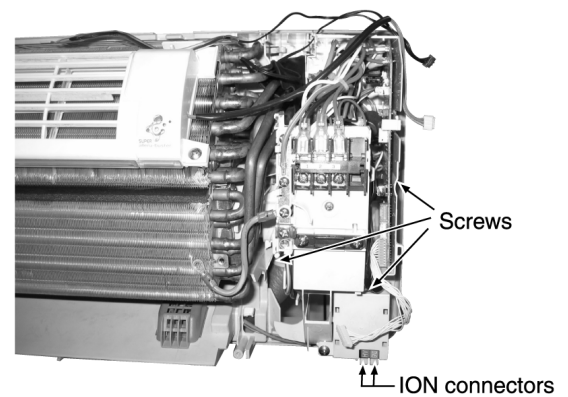

Fig. 6
2. Release the ION connectors. (Fig. 6)
3. Release the screws, you will be able to remove the Control Board. (Fig. 6)